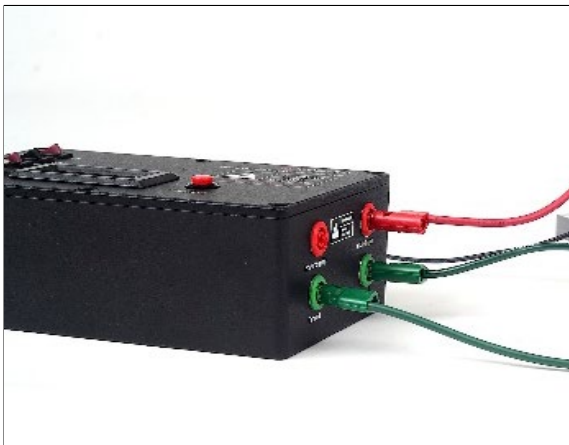

Figure 3. Connect the PRF-911GGL green lead to the PDS-510's green output
3. Attach a second (long) ground lead from the open PDS-510 ground connector to a known AC ground using the Q007B Grounding Cube (Figures 3 and 4).